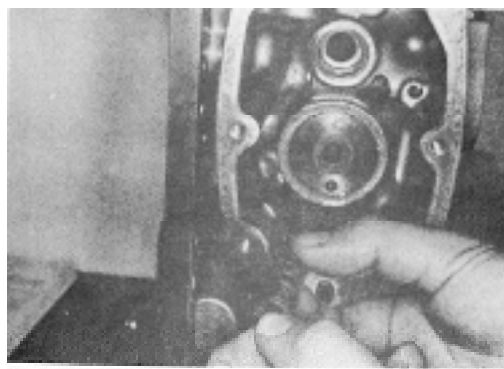

Fig. 5-23, F5139. Removing torque spring Governor Plunger
1. If necessary, remove torque spring (torque spring used on PT (type G) governor plungers only) by twisting spring off shoulder. Do not use a straight pull which will stretch spring beyond its elastic limit so it has to be replaced. Fig. 5-23.